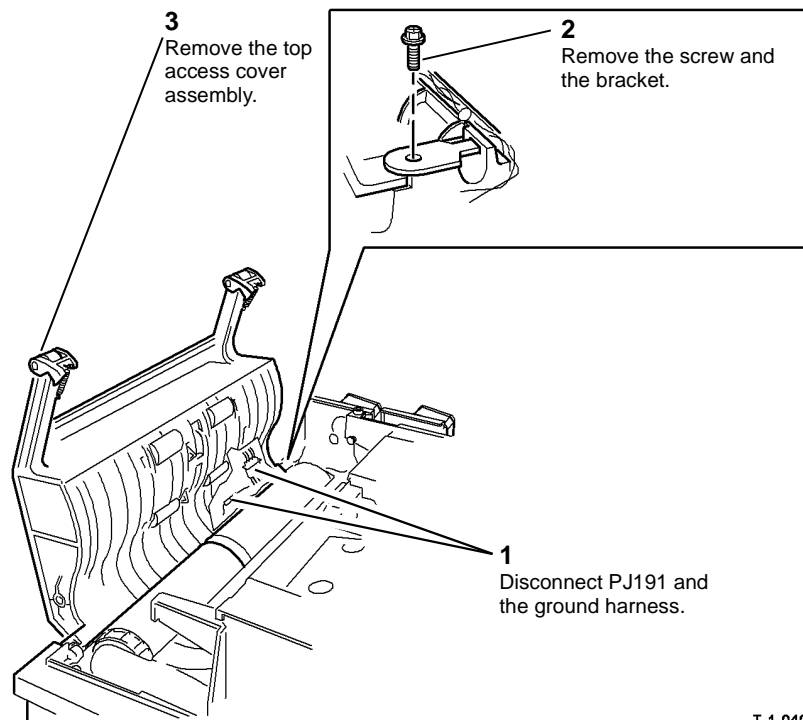

Figure 1 Top access cover assembly
4. Remove the DADH top access cover assembly, Figure 1.